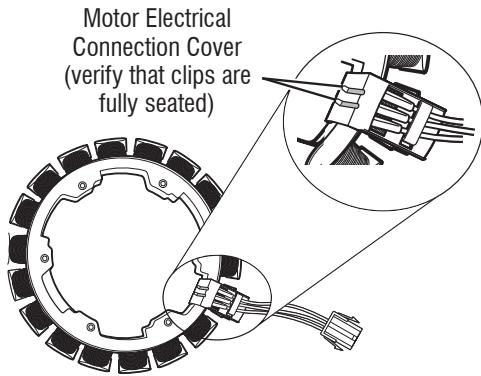

Figure 9 - Removing Shifter Coil and Checking Motor Electrical Connection
13. Visually check that motor electrical connection cover is fully seated (see Figure 9).